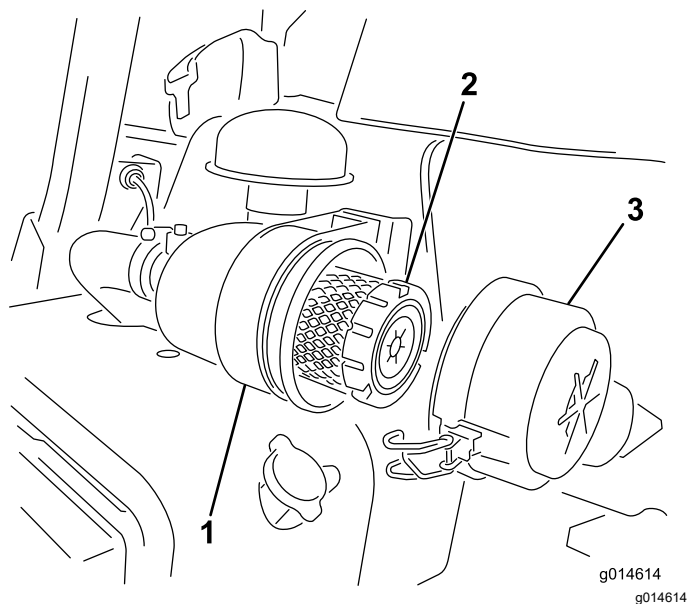

Figure 28
1. Release the latches securing the air-cleaner cover to the air-cleaner body (Figure 28).
7. Secure the latches (Figure 28).